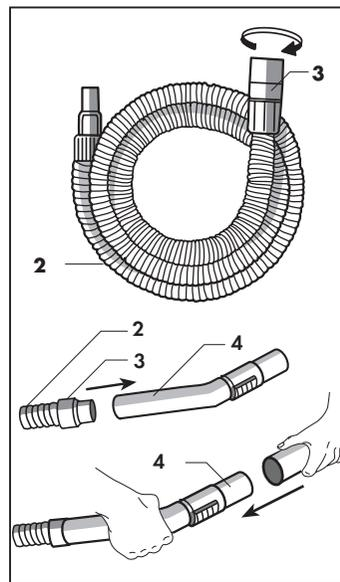

Fig. 8
To connect the different components, just insert the union (3) of the hose (2) into the handle (4) and fit the female portion of the accessory you are going to use onto the male end of the handle (4) (Fig 8).